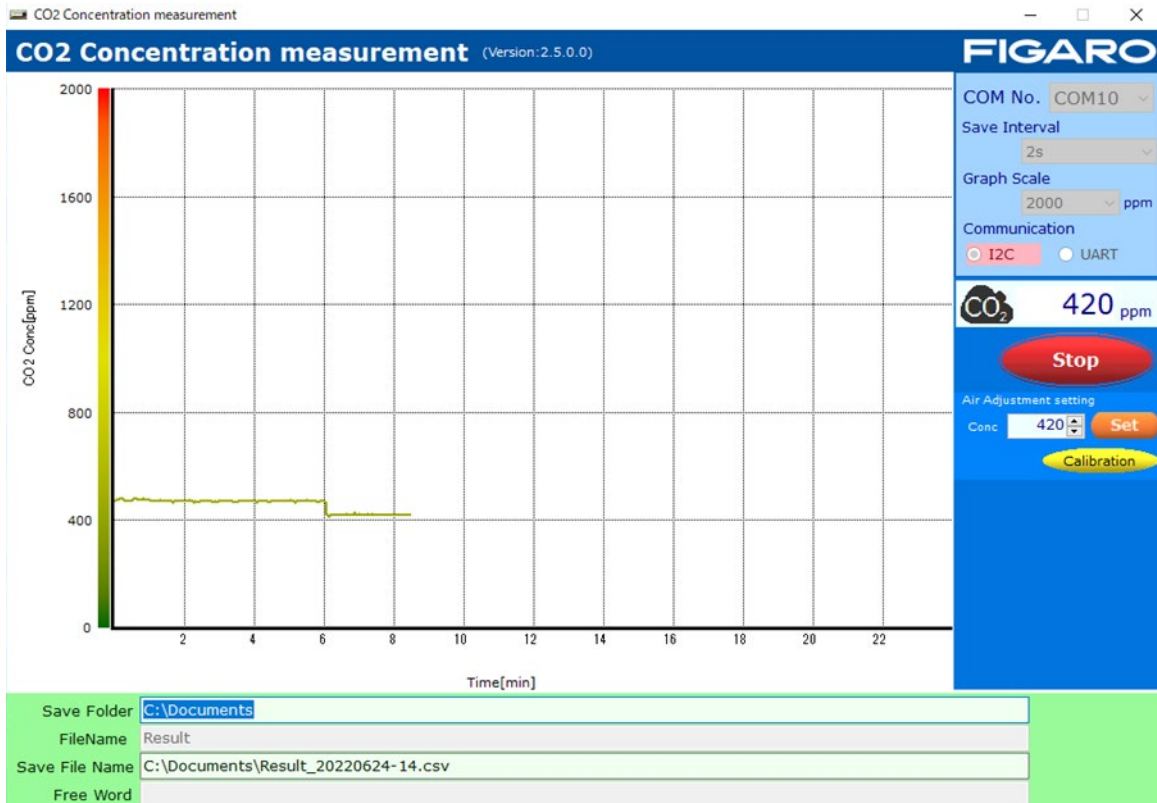

Figure 12 - Display example during Air Adjustment
Figure 12 shows example display concentrations when Air Adjustment is performed assuming that CO₂ concentration in ambient air is 420ppm.
- (1) Change the Air Adjustment setting value to assumed CO₂ concentration in ambient air (420ppm in the example shown in Figure 12) on the PC display. Then click [Set] button.
- (2) Confirm that the CDM7162 CO₂ sensor output has been sufficiently stable under this ambient conditions, and click [Calibration] button. And the concentration display will show the same concentration as the Air Adjustment setting value.
(Figure 12 shows an example of CO₂ measurements when clicking [Calibration] button after 6 minutes in ambient air for confirming stable sensor output.)